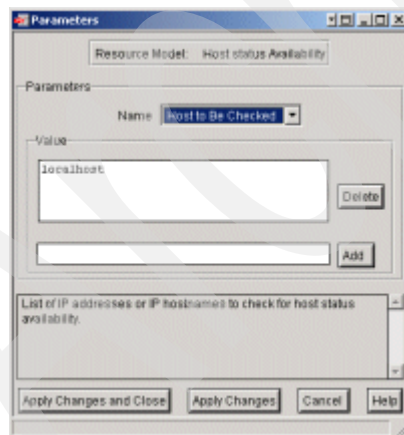

Figure 9-72 Parameters window
5. Click **Parameters**. The Parameters window displays as shown in Figure 9-72.